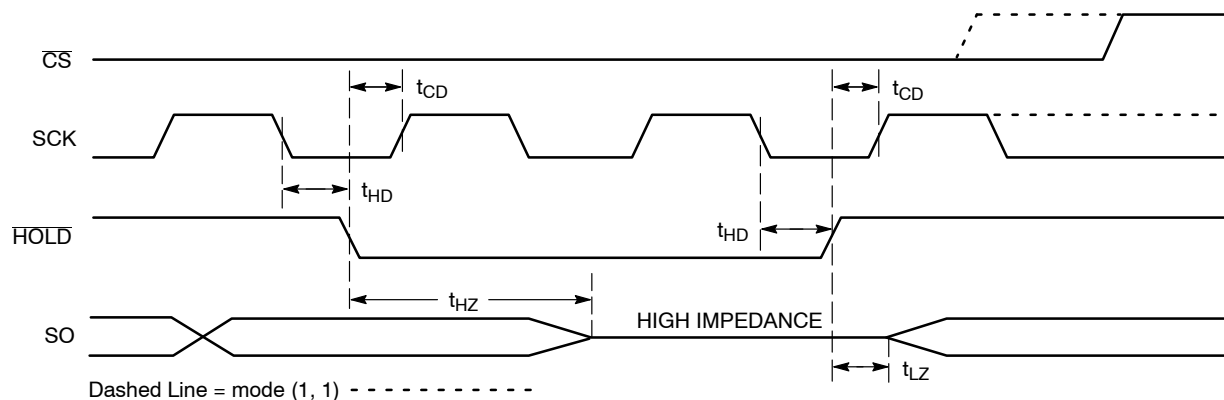

Figure 11. HOLD Timing
The  $\overline{\text{HOLD}}$  input can be used to pause communication between host and CAT25010/20/40. To pause,  $\overline{\text{HOLD}}$  must be taken low while SCK is low (Figure 11). During the hold condition the device must remain selected ( $\overline{\text{CS}}$  low). During the pause, the data output pin (SO) is tri-stated (high impedance) and SI transitions are ignored. To resume communication,  $\overline{\text{HOLD}}$  must be taken high while SCK is low.